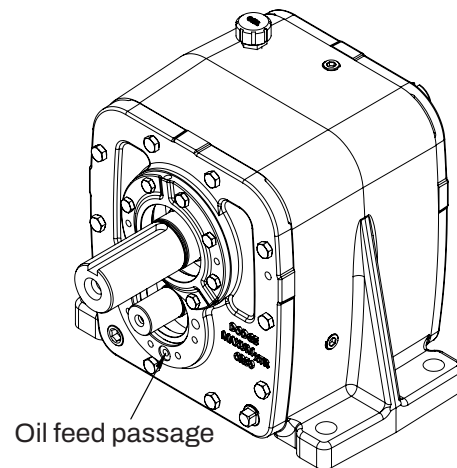

Figure 6 - Oil Feed Passage
15. For final assembly, remove backstop cover (2) and back-stop carrier (1). Press dowel pin (8) into backstop carrier (1). Install O-ring (12) in oil feed passage shown in Figure 6. Apply thin bead of Loctite 515 or equivalent at carrier-reducer joint and cover-carrier joint. Apply a bead of Loctite 515 or equivalent to fully circle the fastener holes. Install all M10 x 1.50 cap screw (7) fasteners with medium-strength thread locker and tighten to 27 lb-ft torque.
15. For final assembly, remove backstop cover (2) and backstop carrier (1). Press dowel pin (8) into backstop carrier (1). Install O-ring (12) in oil feed passage shown in Figure 6. Install all fasteners with medium strength thread locker and tighten to 47 lb-ft torque.